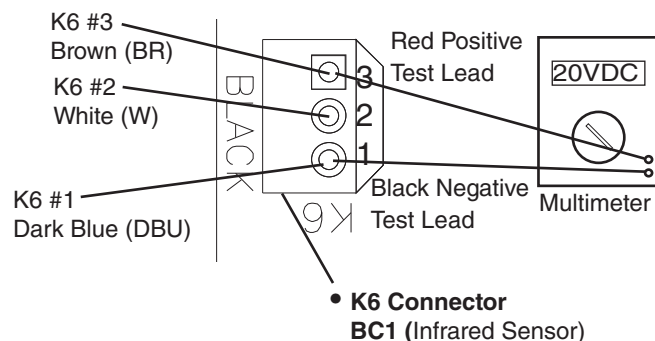

Fig. 1
- 3) **BC1 (infrared sensor) Power Supply (K6 connector):** CB supplies 20VDC to BC1 and BC1 green LED is on. **Diagnosis:** Check that BC1 green LED is on. If not, check for 20VDC between CB K6 #1 (DBU) and CB K6 #3 (BR). See Fig. 1. If 20VDC is not present, replace CB. If 20VDC is present, confirm that the yellow LED is not flashing or steady. If BC1 yellow LED is on or flashing, move ice away from lens. If no ice is present, clean the lens with a warm, clean damp cloth. If cleaning the lens does not work, replace BC1 (infrared sensor).